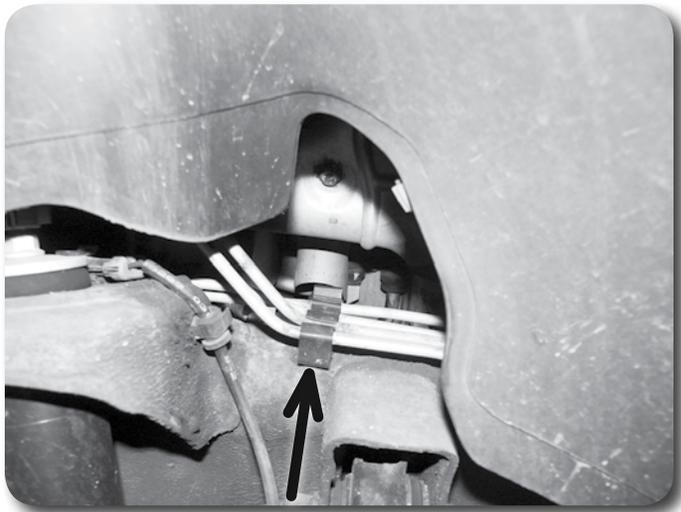

Figure 11
15. Locate the brake lines on the driver's side frame rail at the front driver's side wheel well. Remove the brake lines from the retaining clip Figure 11. Check for any other lines, hoses or wires in this area that may not have enough slack to compensate for 1.5" of lift. Mark these lines, hoses or wires and disconnect.